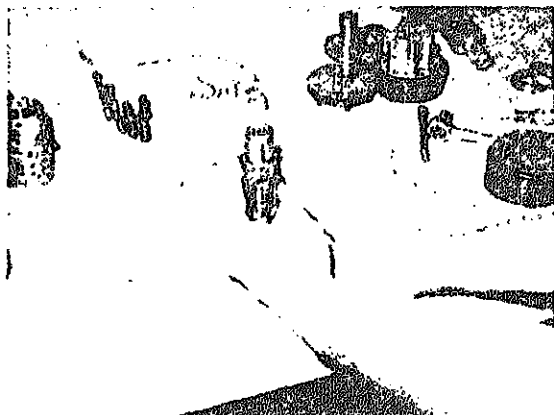

FIGURE 9-41.
g. Center the spring set so that they are down evenly and flush with the upper surface of the spool and sleeve (see figure 9-41).